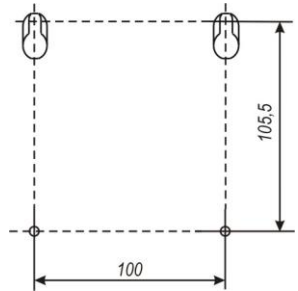

Figure 2
- 2) Perform mounting marking as per figure 2.